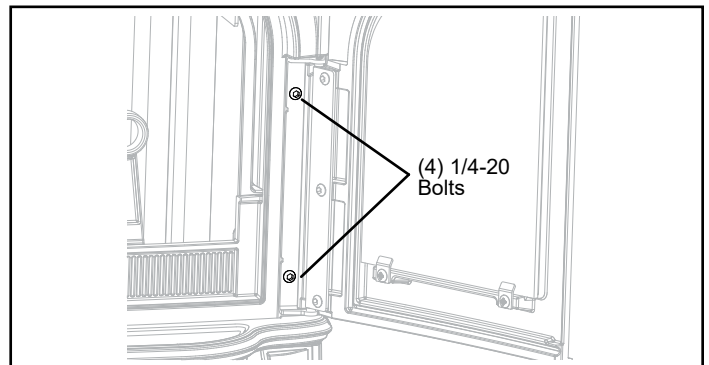

Figure 3.1
1. Remove the right and left door assemblies by removing (4) 1/4-20 bolts located inside the door opening, Figure 3.1.